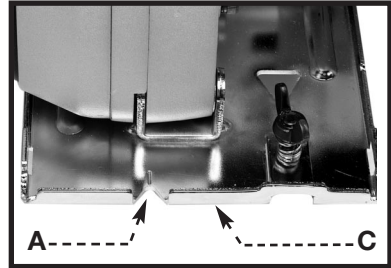

Fig. 13
To aid in free-hand cutting, a triangle-shaped sighting notch (A) Fig. 13 is located at the front of the base plate (C) Fig. 13. Align the cutting line on the workpiece with the sighting notch. Make the cut.